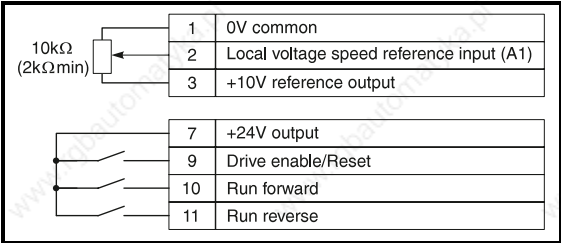

Figure 7.1 Basic connections
2. Make the signal connections as shown in Figure 7.1